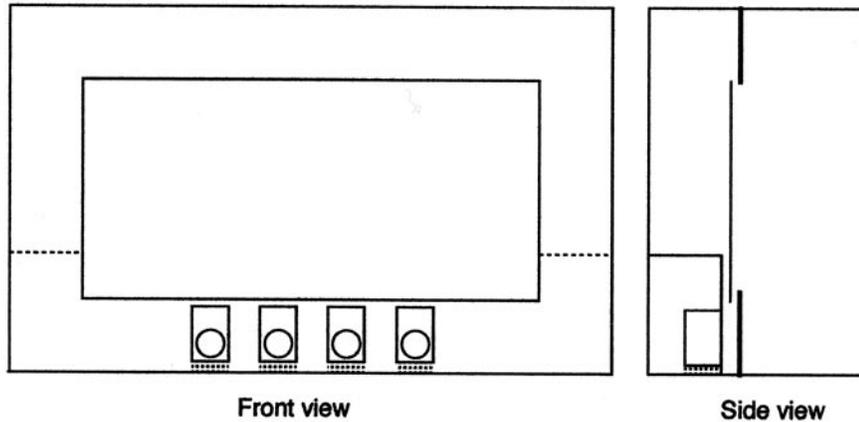

Figure 45: Subwoofer placement, front and side section views.
- Watch out for rattles; use plenty of neoprene padding for isolation. (See Figure 45)